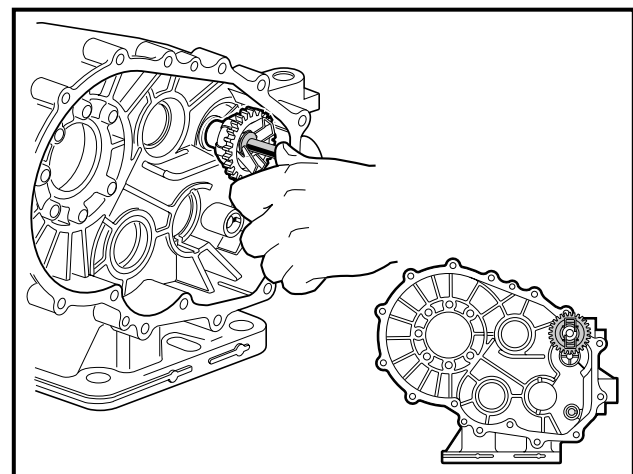

Figure 16a-78 Install Governor Gear
6. Install the shifter shaft into the left (driver side) case as shown (**Figure 16a-80, Page 16a-36**). Then install the washer and using external snap ring pliers (.070 tip), install retaining ring on the shifter shaft outside of the case. Make sure the retaining ring is in the groove of the shaft.